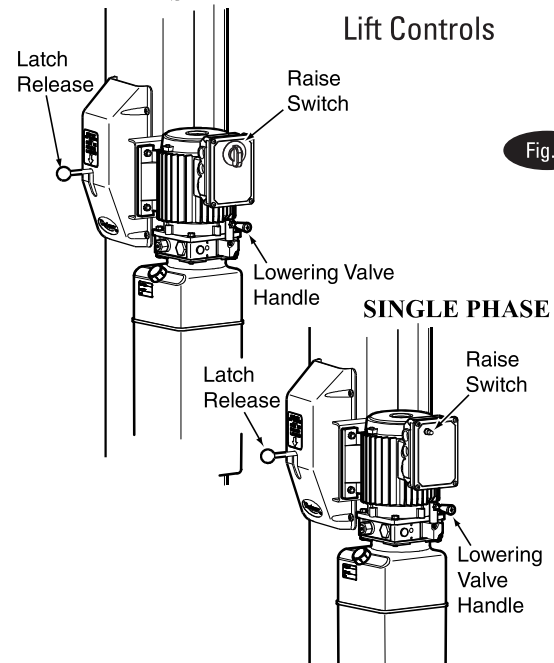

Fig. 3
- A. Push RAISE switch on power unit, Fig. 3.
- Pull LOWERING valve handle to lower, Fig. 3.